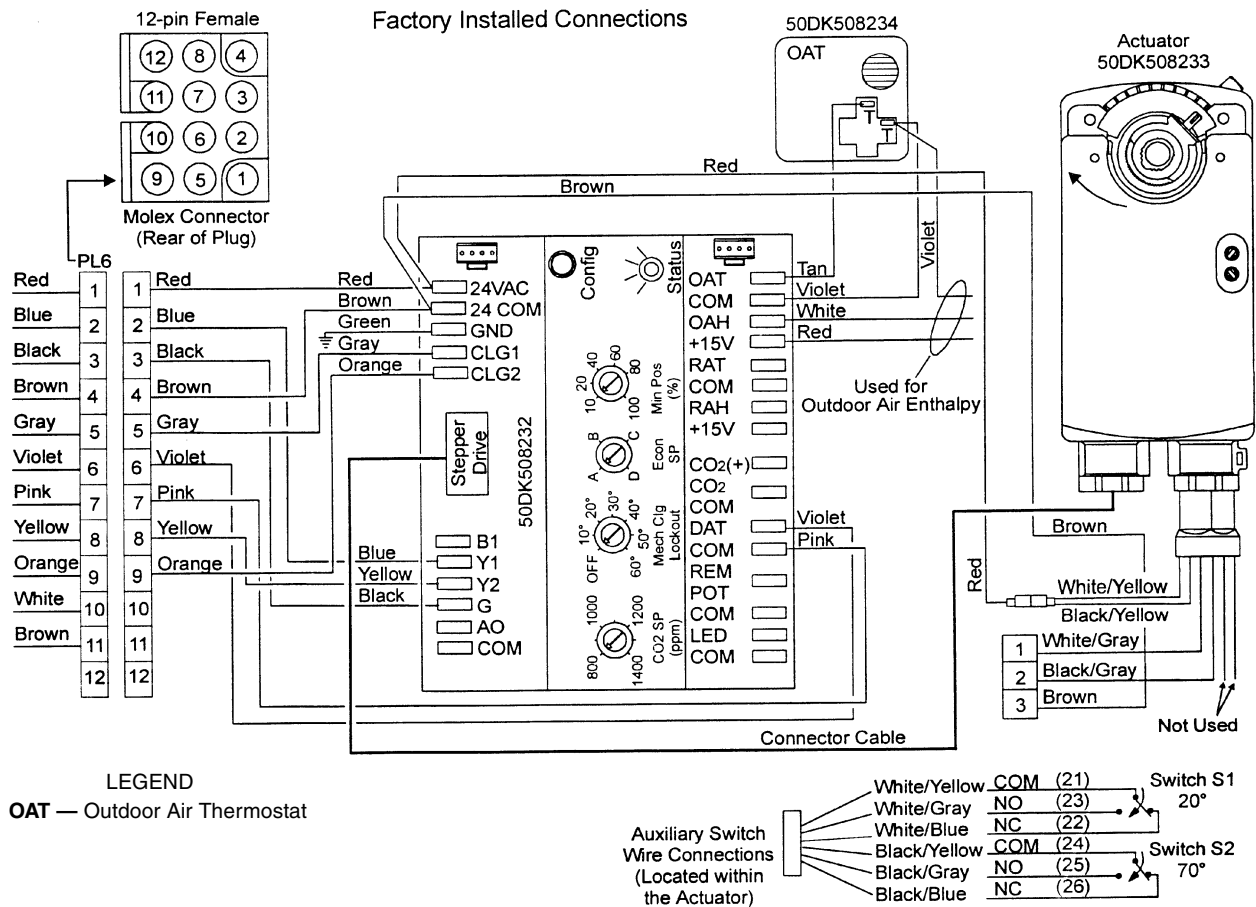
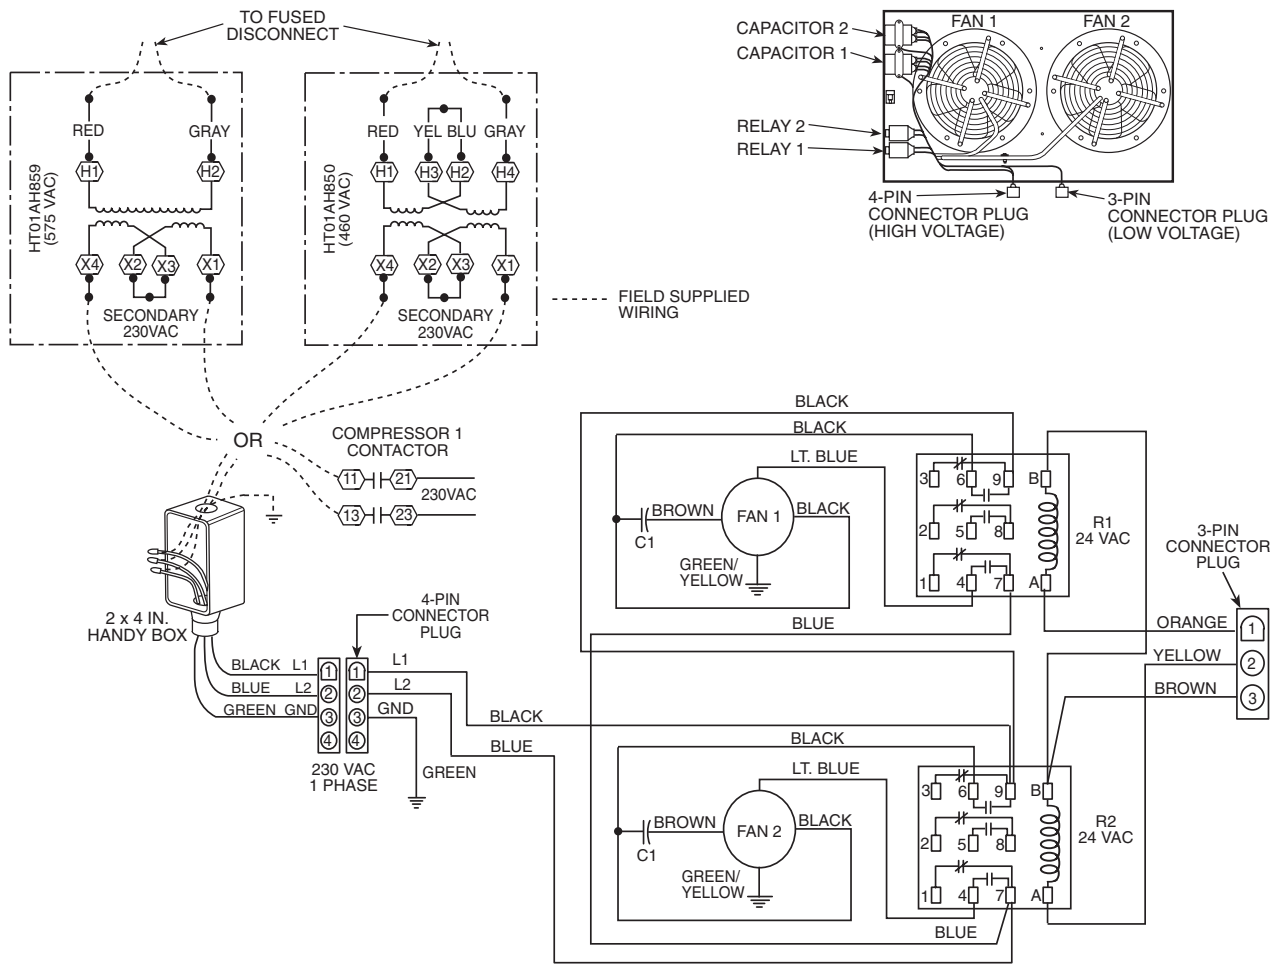

Fig. 26 — EconoMi\$er Wiring
Fig. 28 — Wiring Diagram for Power Exhaust System
8. Remove and store the 12-pin jumper plug from the unit wiring harness located in the upper left corner and insert the EconoMi\$er plug into the unit wiring harness. Refer to wiring diagrams Fig. 26 and 27. Also refer to Fig. 28 if installing an accessory power exhaust.